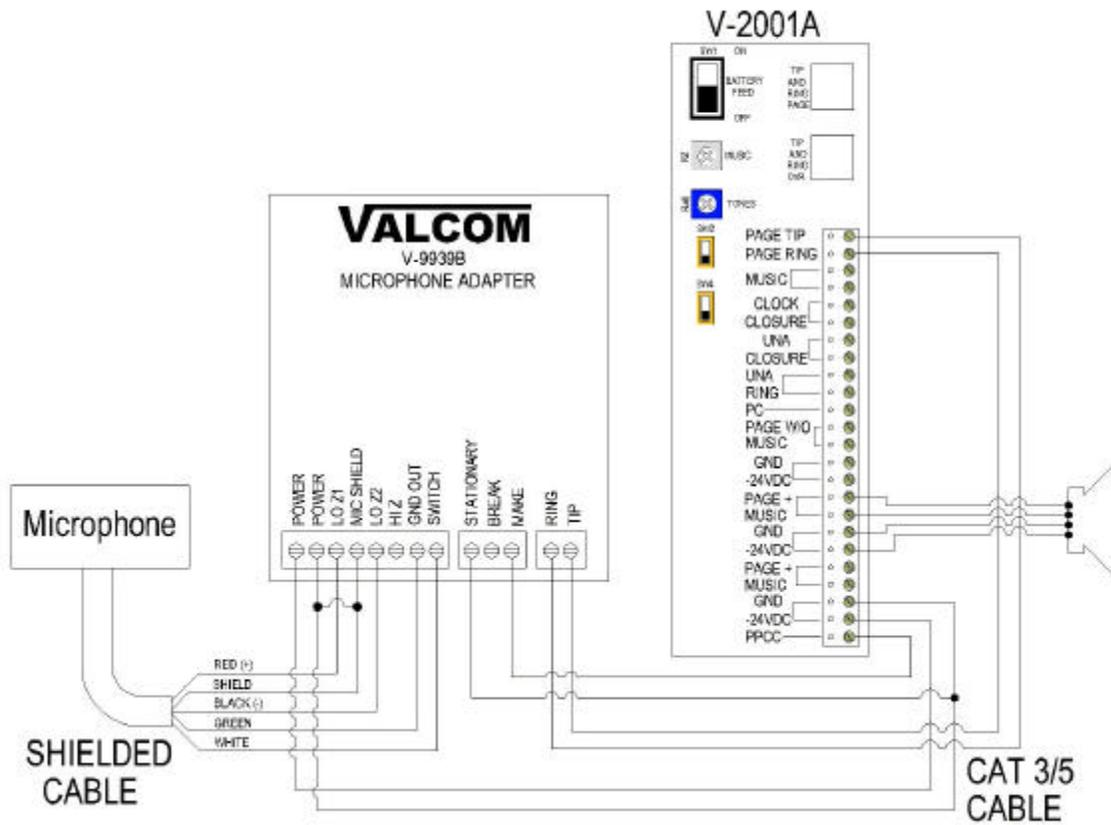

FIGURE 4 – OVERRIDE A SINGLE ZONE WITH A V-2001A
- \_\_\_2. Override an individual zone using a V-2001A: Proceed to Figure 4.
## WIRING INSTRUCTIONS (For Figure 4)
4. No output from V-2001A.	Recheck all connections per Figure 4. Make sure the V-2001A passes the power test in Figure 4, step 16.